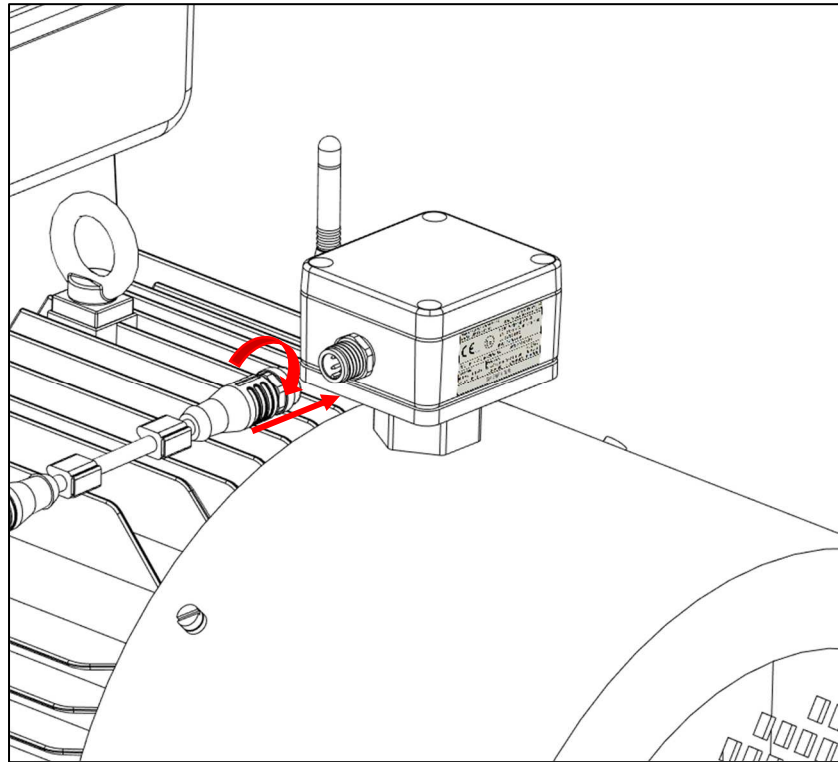

Figure 34.- Connecting the power supply to the InduEye
2. Insert and screw the cable connection from the power generation module, in this case a Thermoelectric generator (male connector) to the IIoT Wireless and Sensor module power supply connector (female connector), as shown in Figure 34.